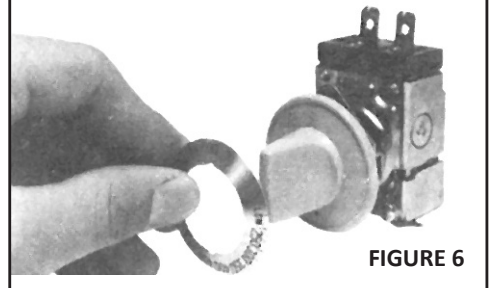

FIGURE 6
7. Position the SLIP-FIT dial overlay over the knob with the "Off" position aligned in the desired position. Carefully slide the SLIP-FIT overlay down and over the locating ribs on the knob, see Fig. 6.